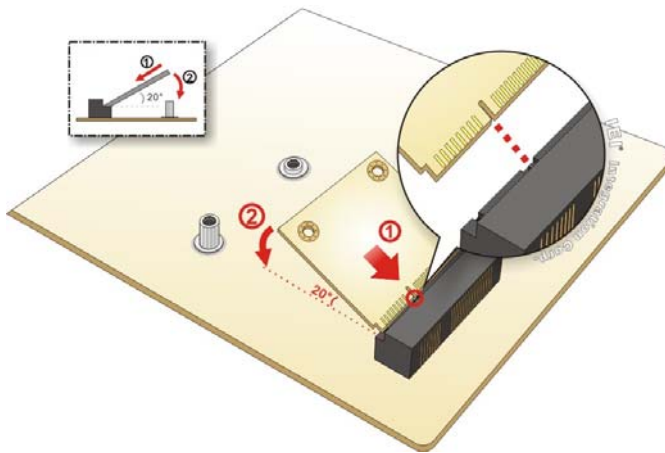

Figure 4-16: Inserting the Half-size PCIe Mini Card into the Slot at an Angle
Step 4: Insert into the socket at an angle. Line up the notch on the card with the notch on the slot. Slide the PCIe Mini card into the slot at an angle of about 20° (Figure 4-16).